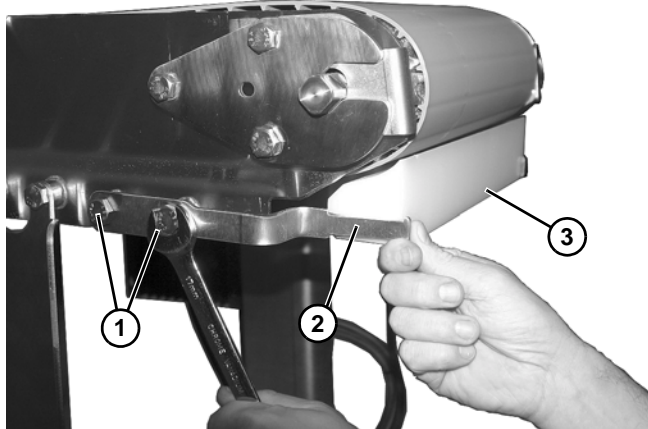

Figure 30
1. Loosen two screws (**Figure 30, item 1**) on bracket (**Figure 30, item 2**) to be able lower bracket slightly for removing limiter bar (**Figure 30, item 3**).